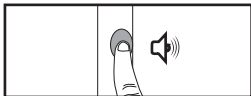

Figure 13.2; Press and Hold Programming Button
Press and hold THIS E-Wand's PROGRAMMING BUTTON again until you hear a SINGLE BEEP (1) [Fig. 13.2]. You have now completed linking your E-Wands and have created a Twist Group.